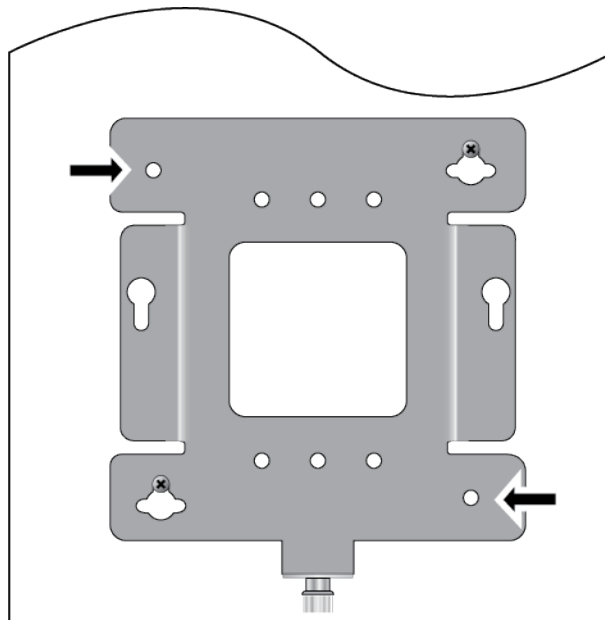

Figure 18. Pre-Drill Holes on Mounting Bracket
8. To secure the mounting bracket, pre-drill holes through the two bracket mounting holes opposite the key-hole slots. See Figure 18.